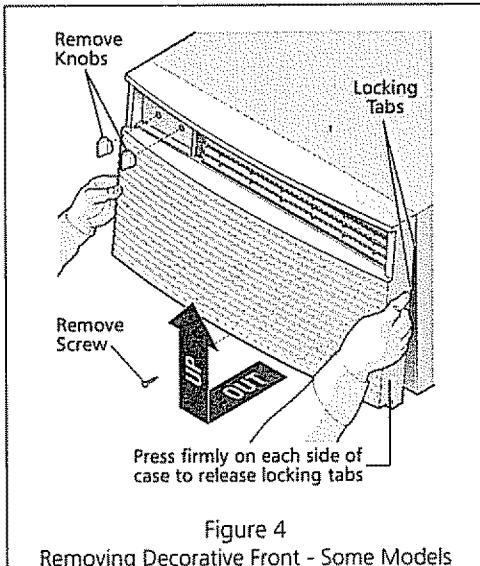

Figure 4
- The cabinet front can be removed for more thorough cleaning. Refer to "Front Installation" in this manual and Figures 4 and 5.
2. Remove knobs by pulling firmly, and then remove dial plate. Remove front retaining screw from the front (see Figure 4 or 5 for screw location, whichever is similar to your model).
3. Press firmly on each side of the metal case close to the front, approximately half way down for Figure 4, or 2/3 the way down from Figure 5 from the top of the front.
2. Position the top of the decorative front on the top flange of the case and align the tabs on the front with the slots in the case. On some models remove the filter to expose the two (2) front retaining screws.
4. Install the front retaining screw (see Figure 4 or 5 for screw location, whichever is similar to your model).